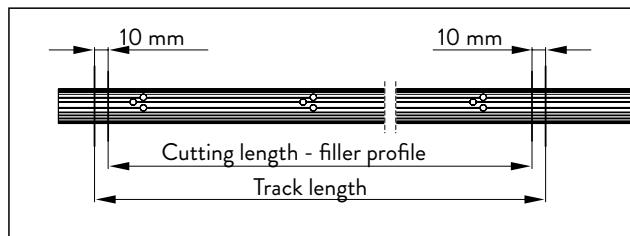

Fig. 25 Moving the markings
- Move the markings on the left and right of the filler profile in by 10 mm (Fig. 25).
The filler profile needs to be 20 mm shorter than the counter profile and the track (Fig. 25).